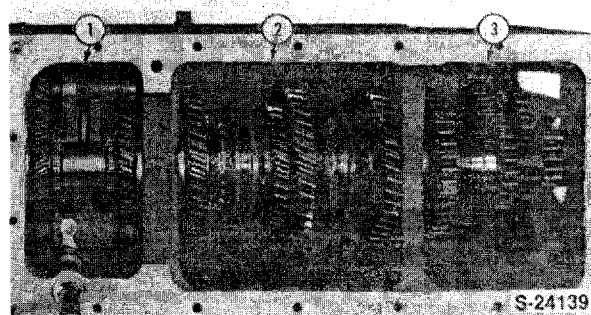
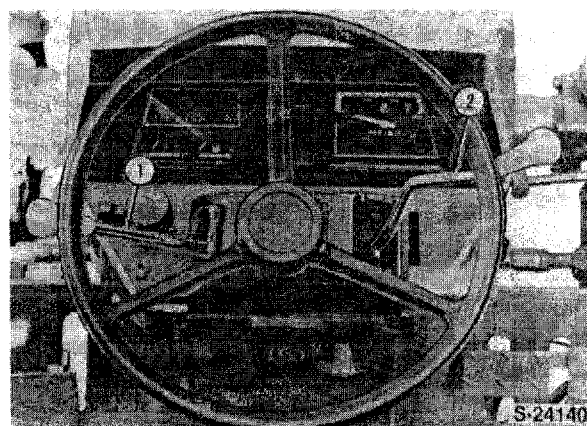

Figure 132
Figure 133
The optional synchromesh shuttle transmission assembly, Figure 132, available on the Model 1720 tractor provides 12 forward and 12 reverse speeds which are manually controlled by three shift levers.
The transmission case contains three compartments, Figure 132. The forward compartment contains the shuttle transmission gears consisting of a forward and reverse synchronizer and are controlled by a column mounted shift lever (1), located on the left hand side of the steering column, Figure 133.
The center compartment contains the main transmission gears consisting of four speed ratios with the two synchronizer gear sets, Figure 132.
These gears are controlled by a column mounted shift lever (2), mounted on the right hand side of the steering column, Figure 133.
All the shuttle and main transmission gears are in constant mesh, Figure 132, and shifting is accomplished by engaging and disengaging three synchronized assemblies located in the transmission forward and center compartments.